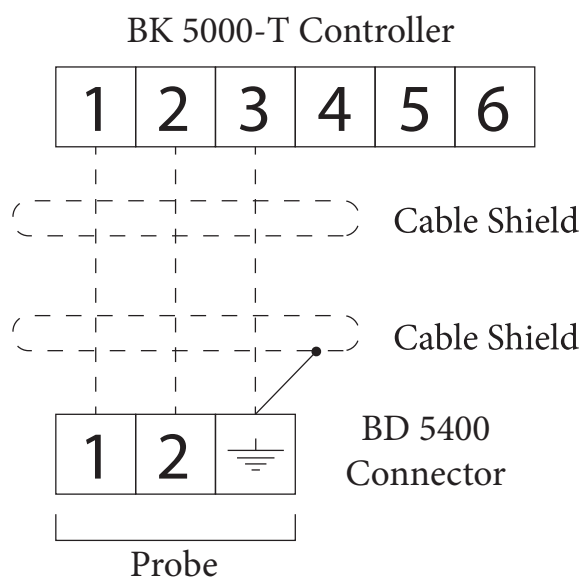

Figure 5 : Wiring diagram
**Note:** As shown in figure 5, the cable shield is left unconnected in controller side. Please only wire cable shield on the probe side.